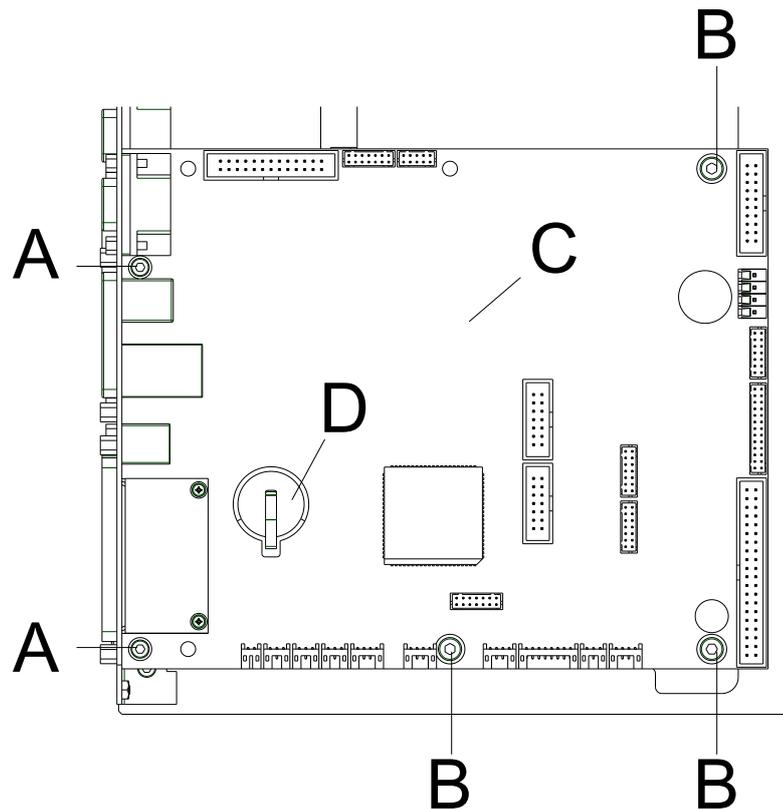

Figure 6
3. Insert a new battery (CR 2032) into the support (D, Figure 6).